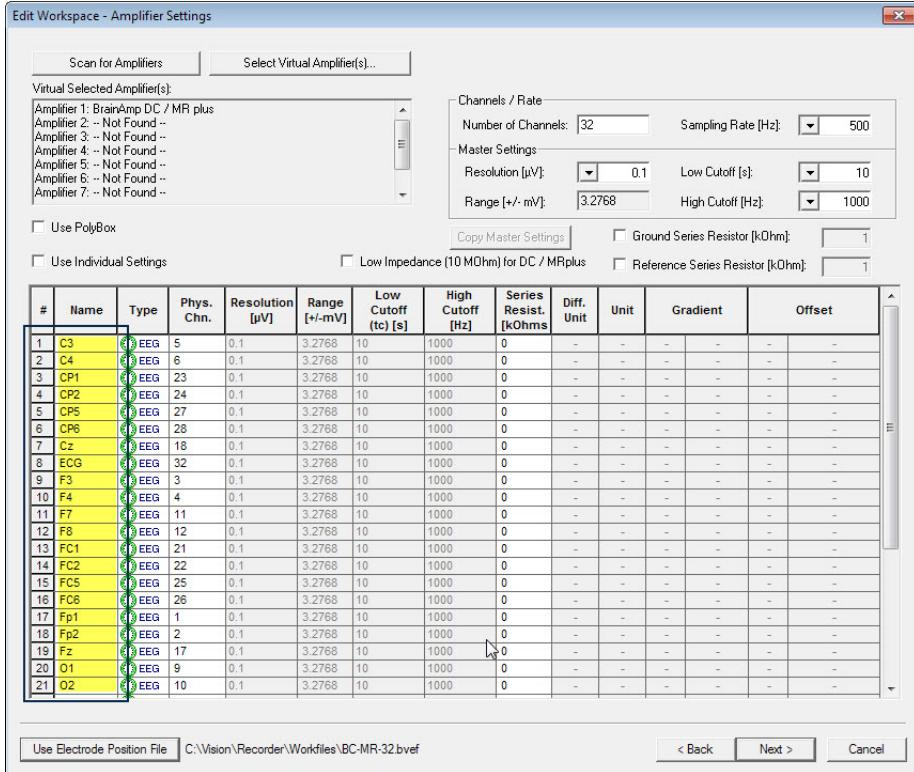

Figure 4-15. Read-in electrode position file
- The data from the electrode position file is loaded into the channel table (Figure 4-15). Thus, *Recorder* takes over the channel names and physical channel assignments together with the topographies.